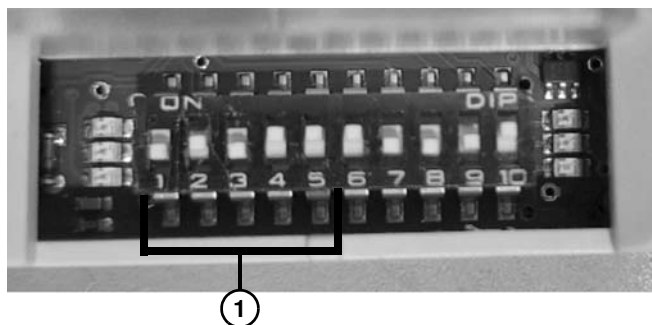

Figure 23
- Speed: DIP Switches 1-5 (**Figure 23, item 1**). and switch settings chart (**Figure 24**).